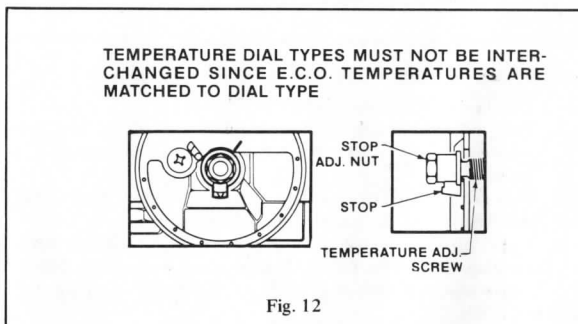

Fig. 12
3. Turn DIAL slowly until the control snaps "OFF". Remove TEMPERATURE DIAL. Holding STOP, to prevent rotation, carefully loosen STOP ADJUSTMENT NUT (See Fig.12).